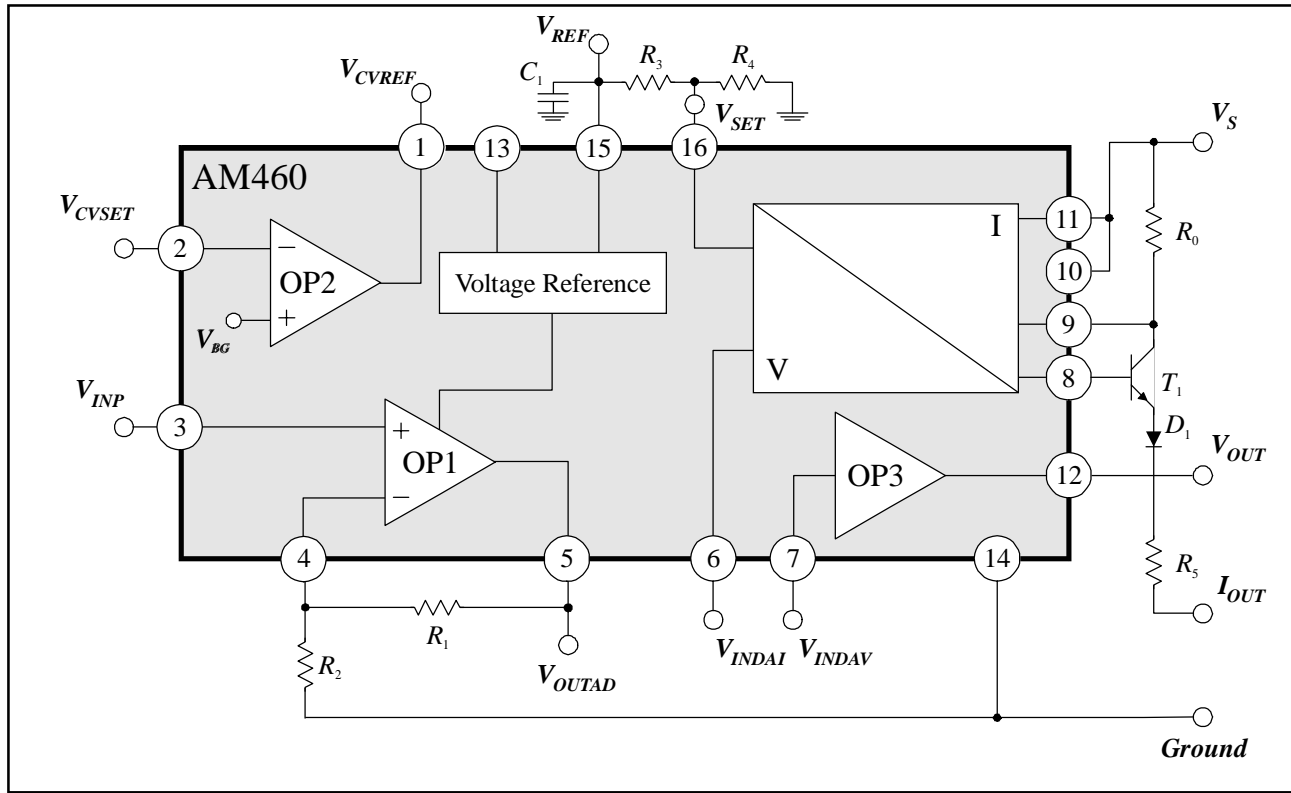
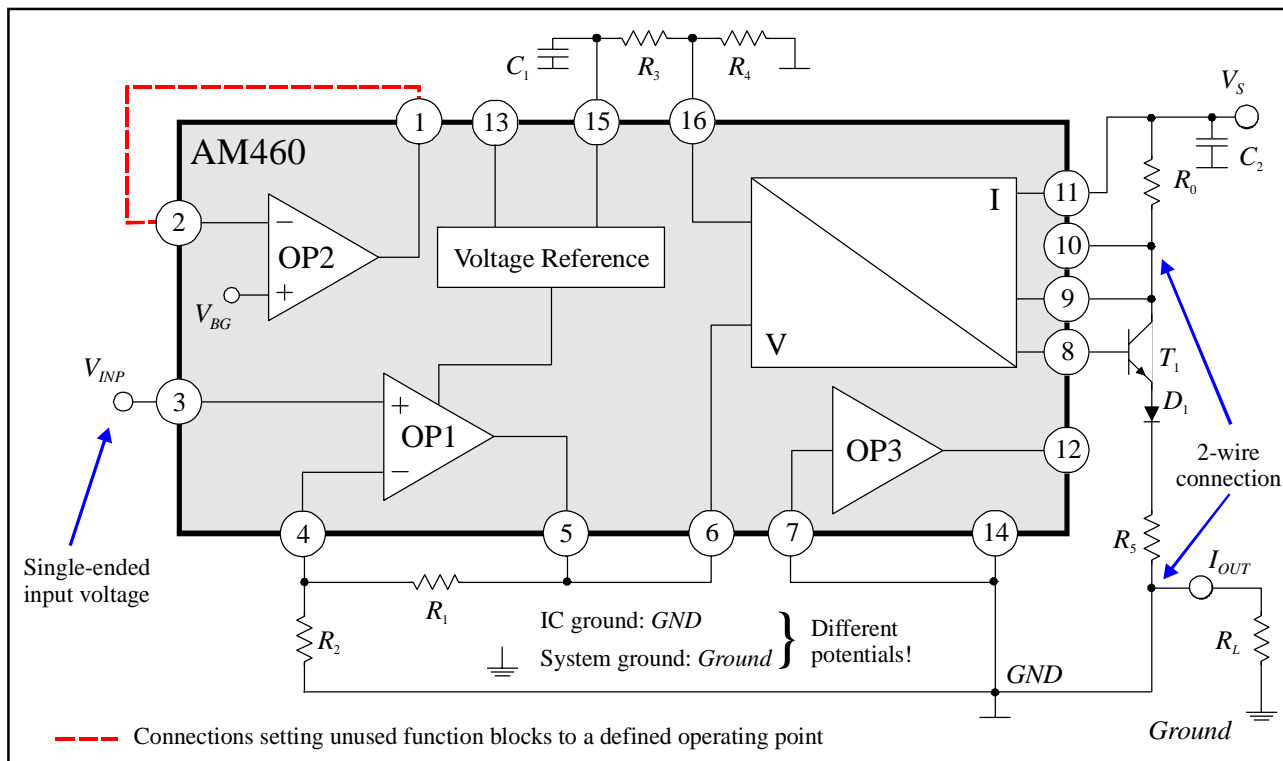

Figure 2: Block diagram of AM460 with external components (3-wire circuit for current output)
Figure 8: Typical 2-wire application for input signals referenced to ground
AM460 is a modular, universal converter and protector IC which has been specially developed for the conditioning of voltage signals referenced to ground. It has been conceived for both 2- and 3-wire operation¹ in industrial applications (cf. application on page 8). The functions of AM460 are depicted in the block diagram (Figure 2) which also illustrates how few external components are required for the operation of this particular device. Electrical specifications for the external components are given on page 6.
AM460 consist of several modular function blocks (operational amplifiers, voltage-to-current converters and references) which depending on external configurations can either be switched together or operated separately (see the basic circuitry in Figure 2):
reduce power dissipation the transistor is an external component and protected against reverse polarity by an additional diode D_1 . Via pin SET an offset current I_{SET} can be set at output I_{OUT} (with the help of the internal voltage reference and an external voltage divider as shown in Figure 2, for example). External resistor R_0 permits the output current to be finely adjusted with parallel operation of current and the voltage output. For the output current provided by T_1 the following ratio applies:
with V_{INDAI} the voltage at $INDAI$ and V_{SET} the voltage at pin SET (V/I converter inputs, Figure 2)².
When using amplification stage OP1 together with the V/I converter for signal conditioning the offset of the output current should first be compensated for by suitable selection of resistors R_3 and R_4 . To this end the OP1 input must be connected to ground ($V_{INP} = 0$). With the short circuit at the input and by connecting up V/I converter pin $VSET$ as shown in Figure 2 the values of the output current according to Equation 3 are as follows:
1. When using AM460 it is imperative that external capacitor C_1 (a top-grade ceramic capacitor) is **always** connected (cf. Figure 2). Care must be taken that the value of the capacitor, also within the temperature range, does not exceed the range of values given in the boundary conditions on page 6. In 2-wire operation ceramic capacitor C_2 must also be used (cf. Figure 8)
In 2-wire operation (cf. Figure 8) system supply voltage V_S is connected up to pin $RS+$ and pin VCC to pin $RS-$. The ground of the IC (pin GND) is connected to the node between resistor R_5 and load resistor R_L (current output I_{OUT}). IC ground (GND) is **not** the same as system ground ($Ground$)!! The output signal is picked up via load resistor R_L which connects current output I_{OUT} to the system ground.